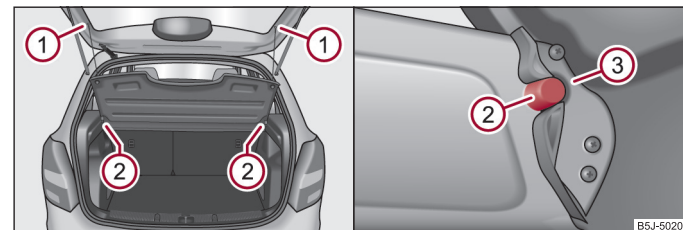

Fig. 59 Remove / install the luggage compartment cover
- Unhook the support straps (1) ⇒ fig. 59.
- Remove the luggage compartment cover from the holders (2) with adequate blows to the bottom side of the cover in the area between the holders.
- To re-install, place the cover on the contact surfaces of the side trim panel and position the mounts on the cover (3) above the holders (2) at the side trim panel.
- Attach the support straps (1) on the boot lid.